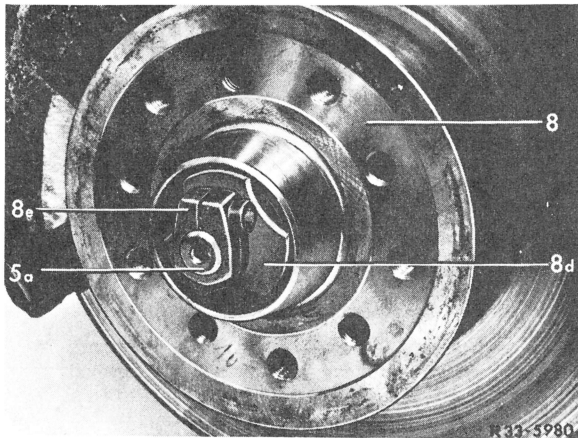

Fig. 2
- 3 Remove contact spring for radio interference suppression. Loosen hex. socket screw of the clamping nut on the steering knuckle spindle, unscrew the clamping nut and remove disc (Fig. 2).